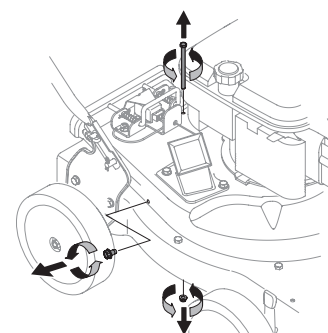

Figure 16
5. Remove self tapping screw on right side of unit that attaches to the flail screen. It may be necessary to remove the hose bracket hanger (if equipped) to get access to the screw. See Figure 16.
6. Remove hex screw on top of rear housing near mounting bracket and the flange lock nut that secures flail screen. See Figure 16.